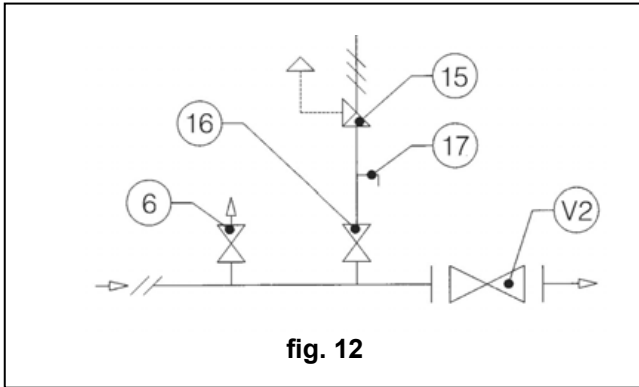

fig. 12
**3.1.2 INSTALLATION WITH ON-OFF VALVE (fig. 12)**